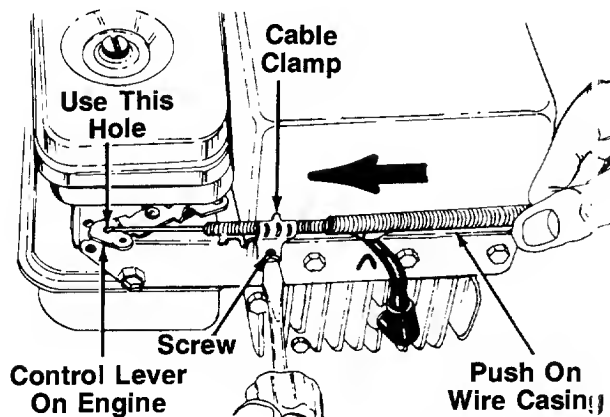

FIGURE 8A.—Model 502R
2. The throttle control cable is attached to the upper handle. Route the throttle control cable under the lower handle and inside the handle mounting bracket. Hook the "Z" end of the throttle control cable into the arm on the control lever on the engine which has two holes, using the **outside** hole as shown in figure 8A.
3. Remove the screw on the cable clamp on the engine shown in figure 8A. Slip the control casing under the clamp. Replace the screw, but do not tighten (cable must still move freely beneath the clamp).
4. Slide the control lever on the engine as far toward the **outside** of the engine as it will go. Push the wire casing on the throttle control cable toward the control lever on the engine as shown in figure 8A as you tighten the screw on the cable clamp to secure the cable in this position.